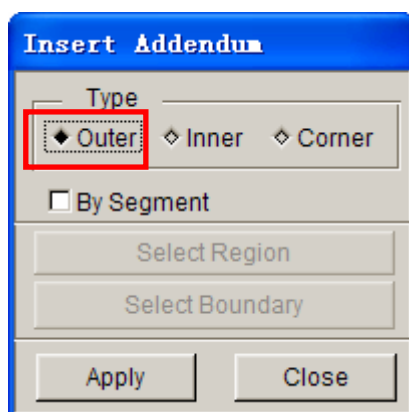

Figure 37 Insert Addendum
2. Select the addendum type **OUTER** in the **Insert Addendum** dialog box, as illustrated in Figure 37.